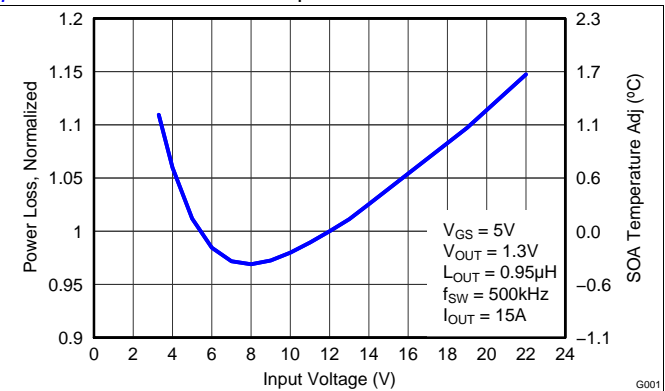

Figure 6. Normalized Power Loss vs Input Voltage
- Normalized Power Loss for input voltage \approx 1.06 (Figure 6)
- SOA adjustment for input voltage \approx 0.7°C (Figure 6)